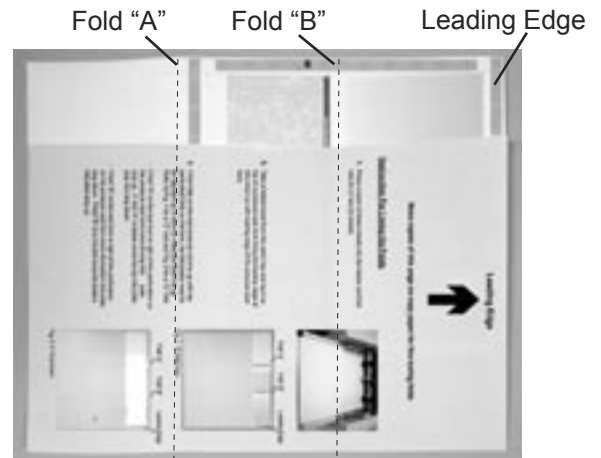

Fig. 1 "Z" fold Form
4. Place the jam clearing handle into the the holder which is mounted to the machine. This is the jam clearing handle's proper location (figure 1).
(Figure 1)
1. Place a stack of these sheets into the feeder and fold one (1) or two (2) sheets.
3. If the folds on this test sheet do not line up with the perforated folds on the form, the fold plates need to be adjusted up or down to make the folds line up. Refer to Fig. 1 for a "Z" fold and Fig. 2 for a "C" fold.